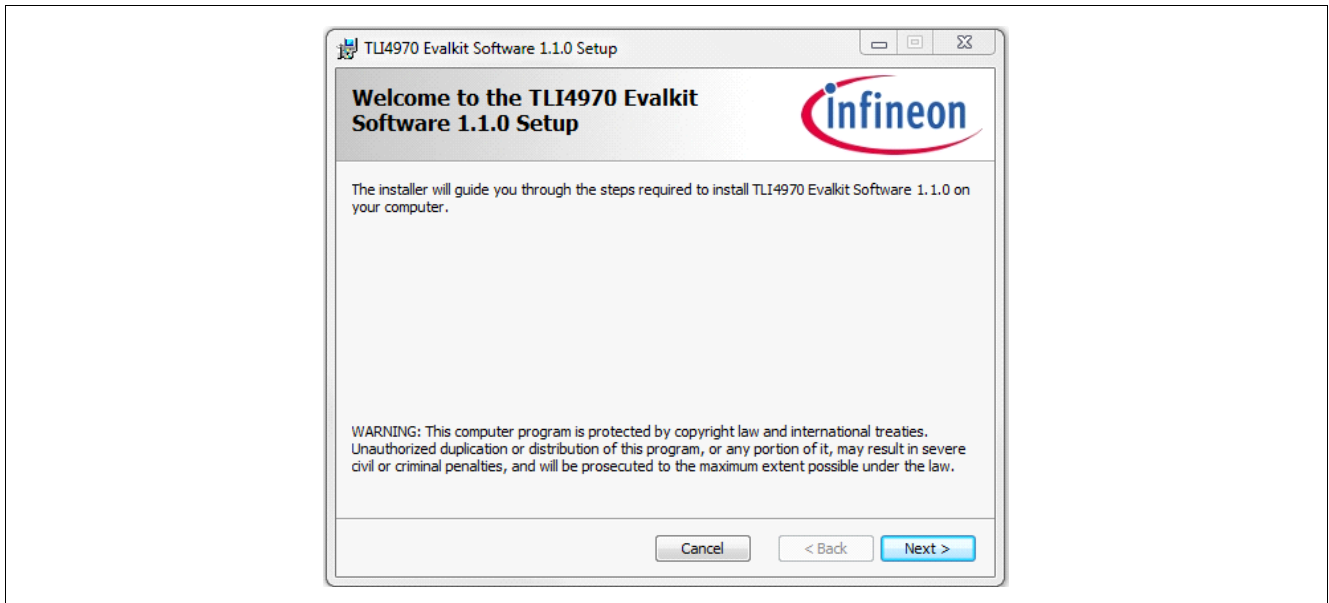

Figure 2 EvalKit Installer - Welcome
1. An installation window will appear as illustrated in Figure 2. Click '**Next**' to continue with the installation.